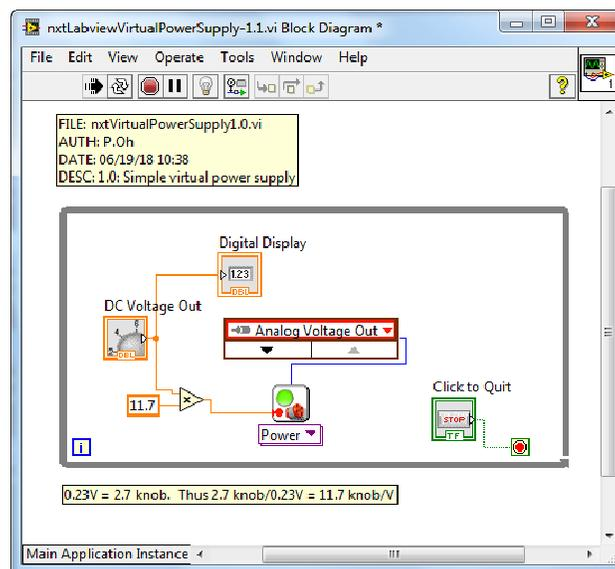

**Figure 1M:** Running the program and setting the knob about halfway (left) results in only 0.23 Volts on the voltmeter (right)
The NXT Brick's **Ports A, B, and C** can be programmed as an adjustable power source. The cable has the pin-out shown in **Figure 1M**.
**Figure 1M:** A standard NXT cable consists of 6 colored wires. When this cable is plugged into the brick's output port, and then each wire has the function given in the right-most column.
Connect your NXT Brick and PC with a USB cable and power on the Brick. Next, insert the NXT adapter into the breadboard. Connect the Brick's Port B and NXT adapter with an NXT cable as seen in **Figure 1N (left)**. This NXT adapter provides easy access to the 6 colored wires of the NXT cable and Port. **Figure 1N (right)** shows a white and black jumper wire connected to Pins 1 and 2 respectively. The wires are then connected to a voltmeter. The table in Figure 1M shows that Pins 1 and 2 serve as Motor Power 1 and Motor Power 2 when connected to an output port (like Port B).
Executing the program, with the knob about half-way (e.g. 2.5), one sees that the voltmeter (in **Figure 1M**) only generates 0.23 Volts. With the knob fully clockwise (e.g. 5), the voltmeter displays only 0.44 Volts. These values will depend on the value (i.e. freshness) of your NXT Brick's batteries.